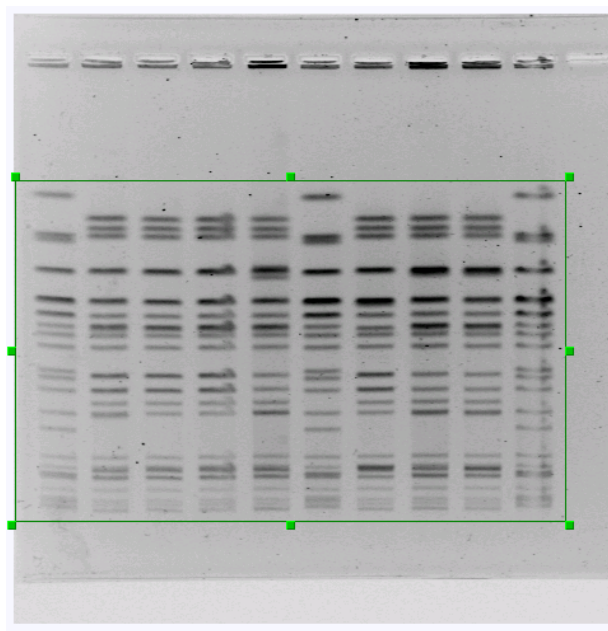

Figure 6: Area of gel lanes.
The imported gel image is surrounded by a green rectangle. Since BioNumerics recognizes the darkness as the intensity of a band, make sure the bands appear as dark bands on a white background (see Figure 6).
4. Delineate the area of the gel lanes by clicking and dragging the nodes of the rectangle to adjust it. Exclude the wells from the rectangle (see Figure 6).